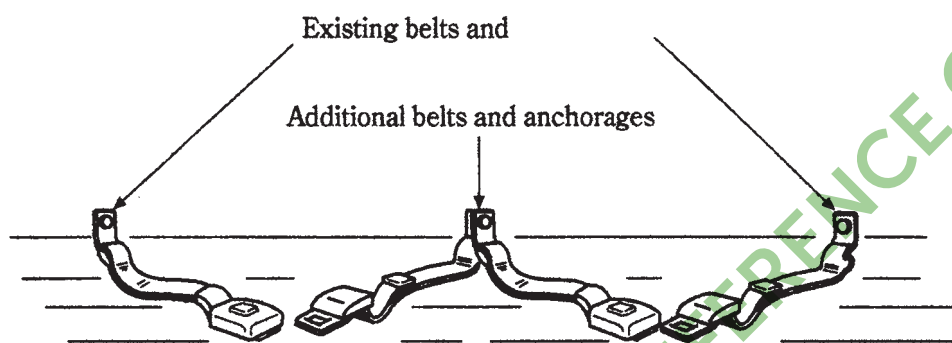

FIG 2
- (B) In the case of a rear seat where three seat belts are provided, with the centre belt being a lap belt, one additional lap belt may be fitted (see Fig 2).
With this configuration three adults can use the original configuration of seat belts or alternatively four children may be accommodated, two in the outer lap sash belts and two each using an original segment and a fitted segment of the lap belt coupled together (See Fig.2). The additional anchorage point must be: